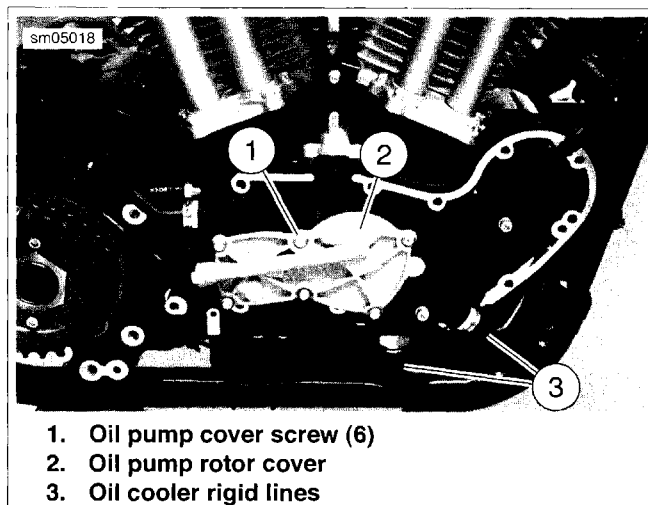
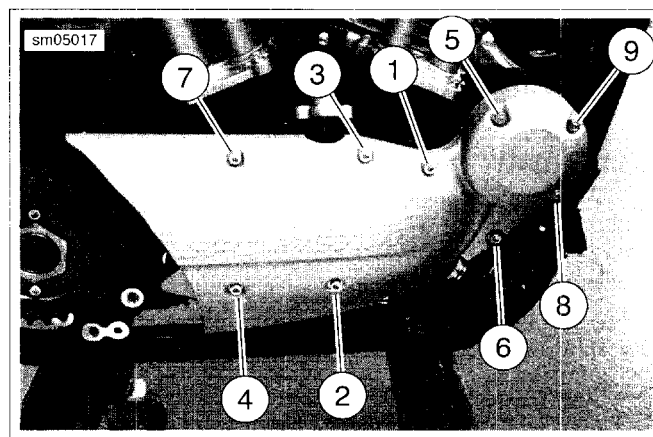

Figure 3-170. Oil Pump Rotor Cover: XR Models
Figure 3-174. Oil Pump Cover Torque Sequence: XR Models
5. See Figure 3-170. Remove oil cooler rigid lines (3) from gearcase cover. See 3.14 PRECISION COOLING SYSTEM: XR MODELS, Oil Pump Lines.
6. Remove six screws (1) and remove oil pump cover (2). Discard cover O-rings.
5. Install each outer rotor (1) in its original location.
6. Install each inner rotor (2) in its original location.
7. See Figure 3-170. Install **new** O-rings in oil pump rotor cover and install cover using six fasteners (1). Tighten fasteners to 80-110 **in-lbs** (9.0-12.4 Nm).
8. Install oil cooler rigid lines (3) to quick connect fittings. See 3.14 PRECISION COOLING SYSTEM: XR MODELS, Oil Pump Lines.
9. See Figure 3-174. Install oil pump/cam support housing cover. Secure with 9 socket fasteners. Tighten in the sequence shown to 80-110 **in-lbs** (9.0-12.4 Nm).